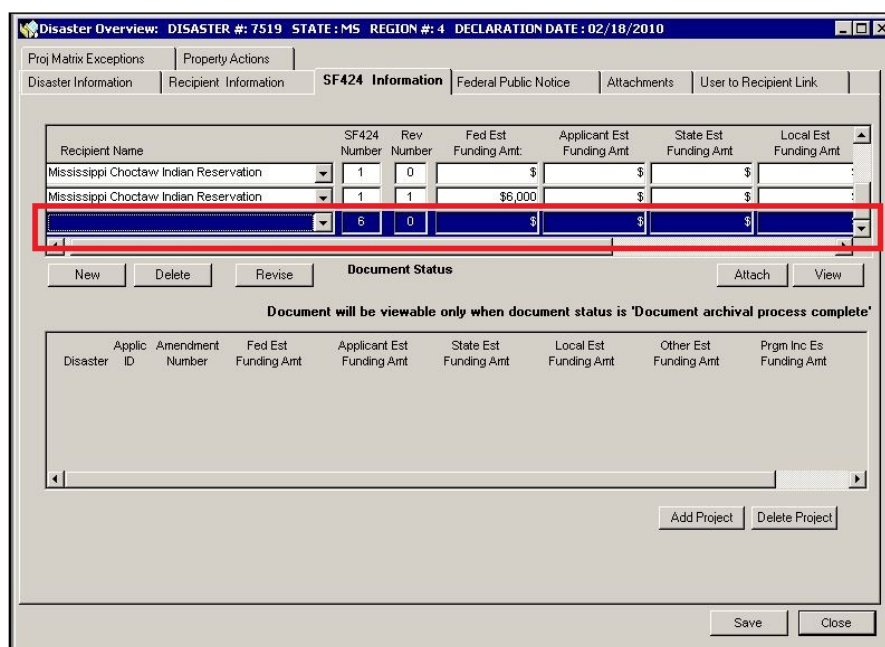

Figure 3-36: SF-424 Information - New Row Added
- a. Click the NEW button. A new SF-424 row is displayed (Figure 3-36).